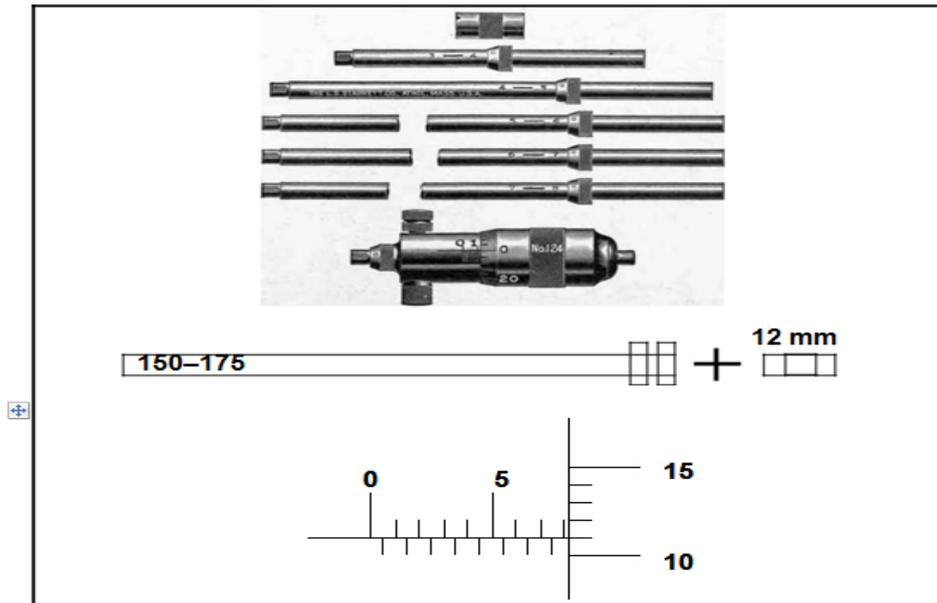

FIGURE 5.1
5.3 Determine the reading displayed on the inside micrometer shown in FIGURE 5.1 below.